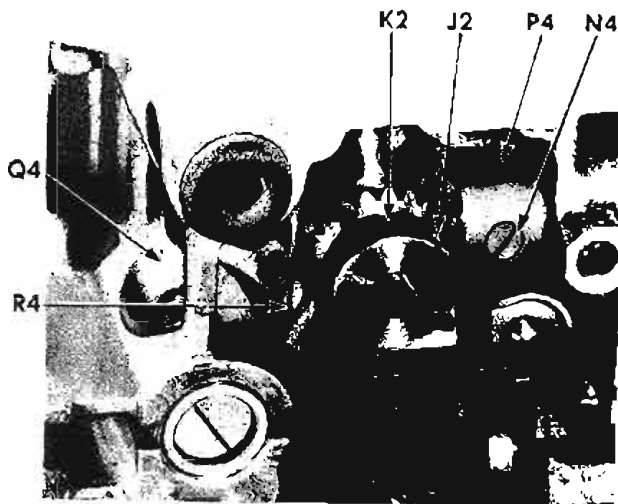

Fig. 42. Hook Shaft Bevel Gears
3. Press down upon finger T4 and tighten set screw R4, Fig. 42.